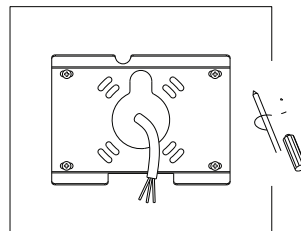

Figure 1
1. Align mounting bracket with J-Box; Secure it in place with the 4 provided screws. (Figure 1)